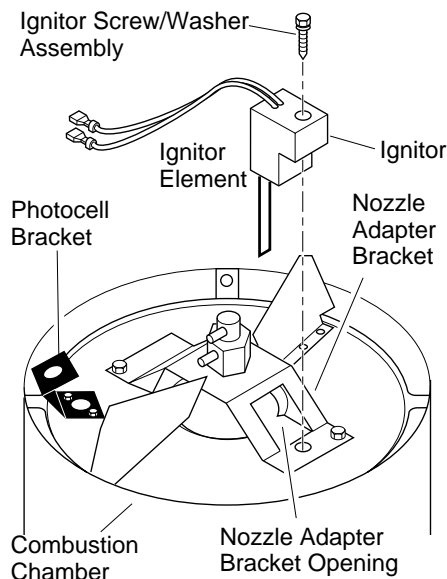

Figure 12 - Ignitor Replacement
6. Remove combustion chamber. Stand combustion chamber on end with nozzle adapter bracket on top (see Figure 12).
9. Carefully guide ignitor into opening in nozzle adapter bracket. Do not strike ignitor element. Attach ignitor to nozzle adapter bracket with screw using a 1/4" nut driver (see Figure 12). Torque .90 to 1.69 N-m (8 to 15 in-lbs) Do not over torque.